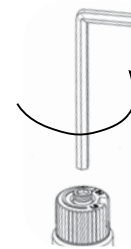

Fig. 2
- 13) Insert a 5/32" or 4mm Allen wrench into the hexagonal key-way of the screw (Fig. 2), rotate it counter-clockwise until it is free and extract it.